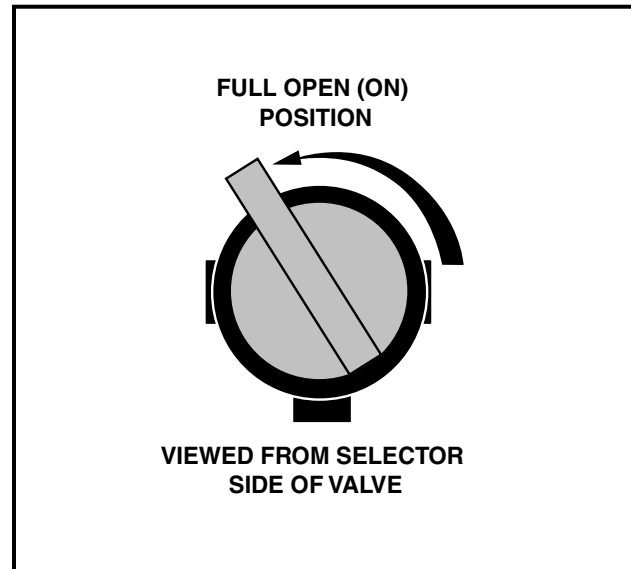
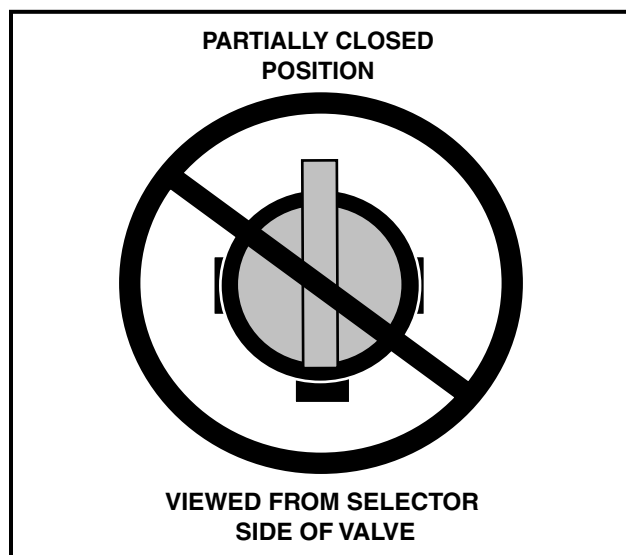

Figure 13 Fuel Shut-off Valve – Open Position
Figure 14 Incorrect Fuel Shut-off Valve Setting
3. Completely open the fuel shut-off valve (**Figure 13, Page 24**). Make sure the valve is fully open. A partially closed fuel shut-off valve (**Figure 14, Page 24**) combined with the use of the choke can result in a fouled spark plug and engine failure.